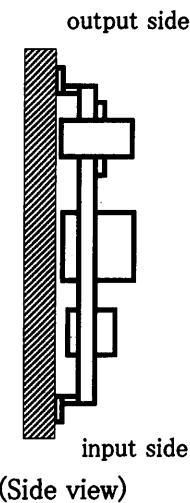

Fig.1.1 Mounting method
- (1) Input : DC18-36V
(2) Output : Rated output
(3) Mounting method : Shown as Fig.1.1